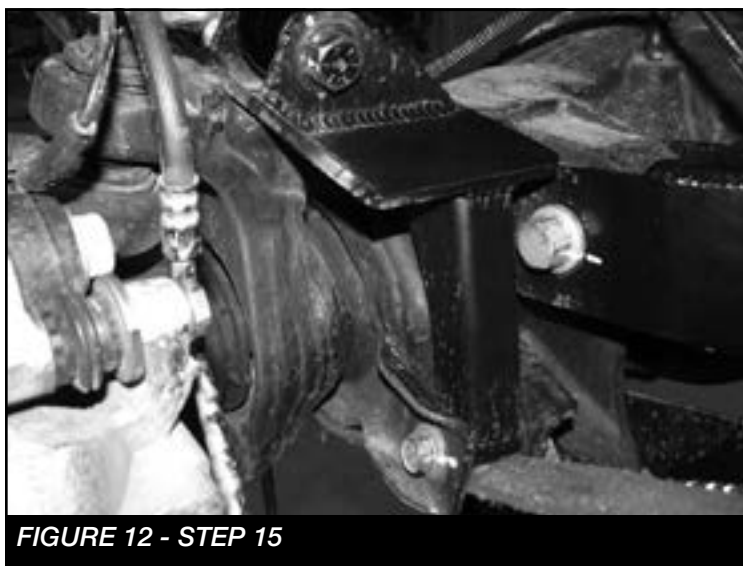

FIGURE 12 - STEP 15
15. Install FT30717 (Driver lower coilover mount) onto the driver side of the axle using the factory shock hardware at the factory shock location and M14 X 30mm bolt and washer at the lower spring perch location. Torque factory hardware to 100 ft-lbs and M14 to 160 ft-lbs. SEE FIGURE 12